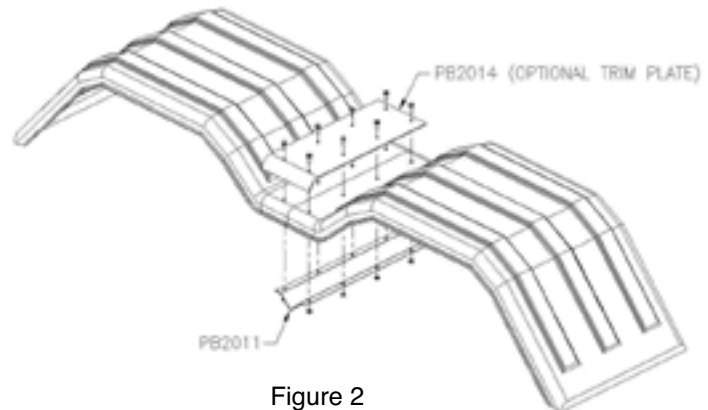

Figure 2
- C. Using the $1/4$ " x $3/4$ " long Phillips truss head bolts, attach the fenders, trim plate (if purchased) and center bracket together. Make sure the center bracket V is facing down. Tighten down the bolts using the supplied lock nuts. **DO NOT OVER TIGHTEN** the bolts. Start from the center and work towards the outside. See Figure 2.